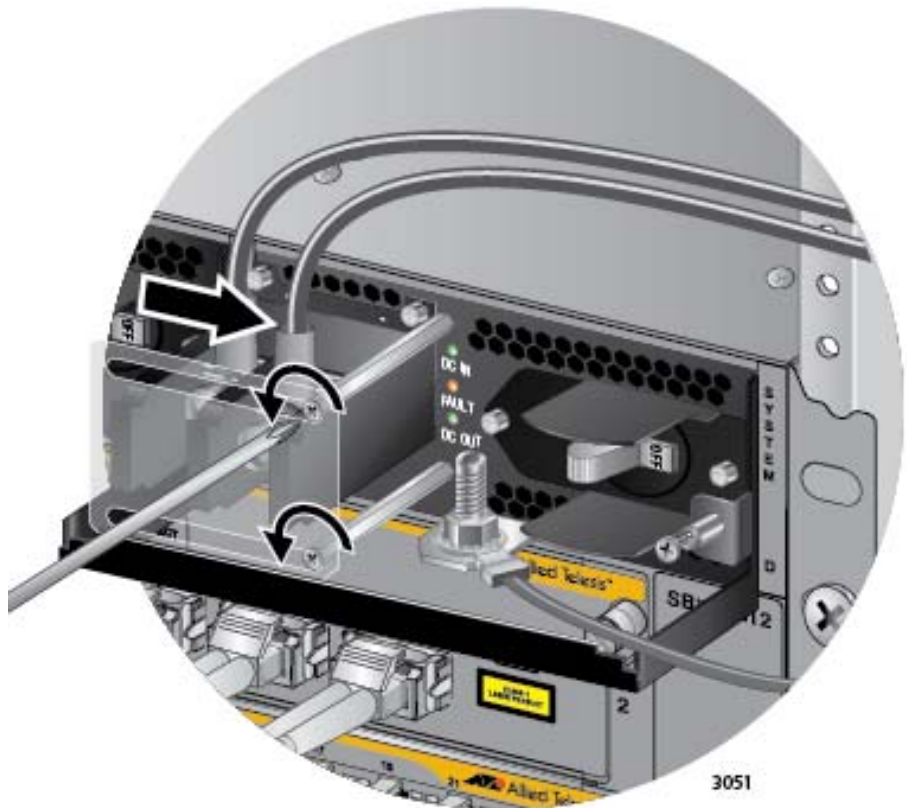

Figure 135. Opening the Plastic Window over the Terminal Block
4. Use a #1 screwdriver to loosen the two screws that secure the plastic cover over the terminal block and slide the cover to the right. You may need to slightly lift the locking handle to access the bottom screw. Refer to Figure 135.